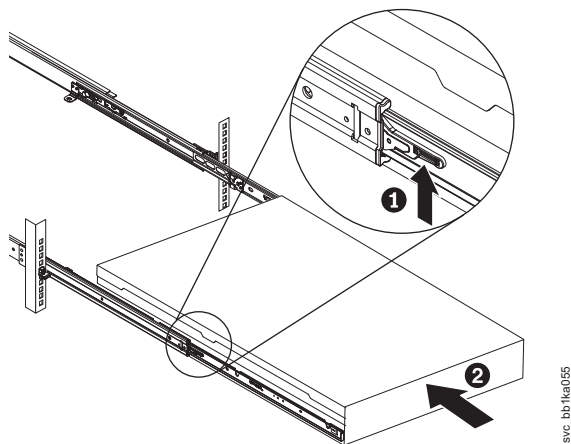

Figure 208. Raising the SAN Volume Controller 2145-DH8 locking levers of the slide rails of the rack
17. Lift the locking levers (**1** in Figure 208) on the slide rails and push the server **2** all the way into the rack until it clicks into place.